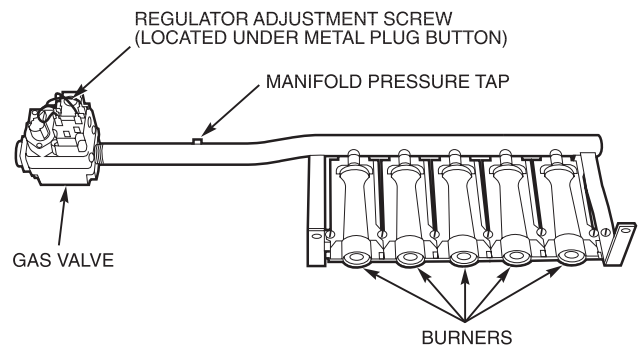

Fig. 50 — Burner Tray Details
8. Slide the burner tray out of the unit (Fig. 50).